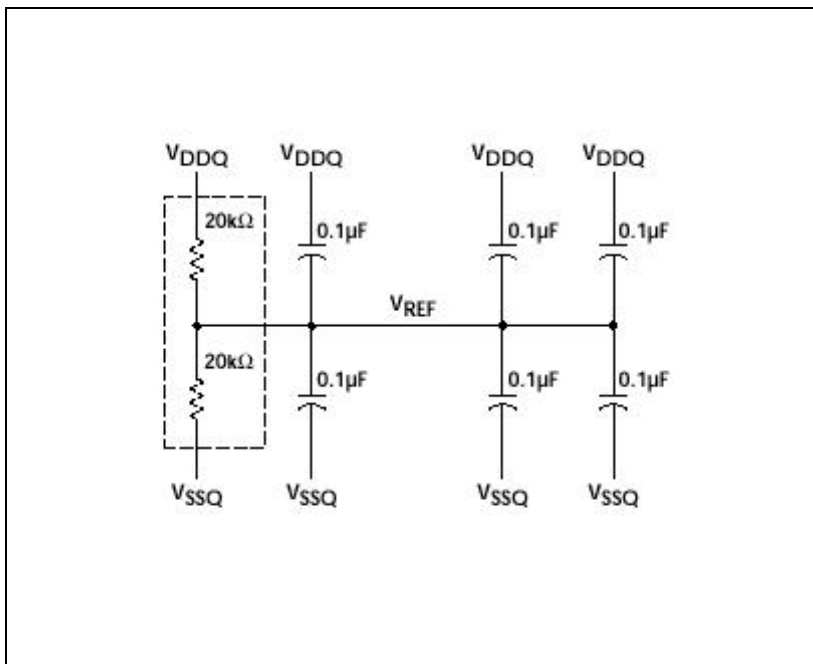

Figure 4 VREF Generation Scheme
- However, VREF (Voltage reference at +1.25V) is still required by the RC32434/5 processor as well as all DDR chips. Because VREF is usually generated by the LP2995, if the LP2995 is removed, an alternate source must be implemented. A simple divider bridge using 20K resistors in parallel with 0.1µF caps between +2.5V and GND can be used (see Figure 4).